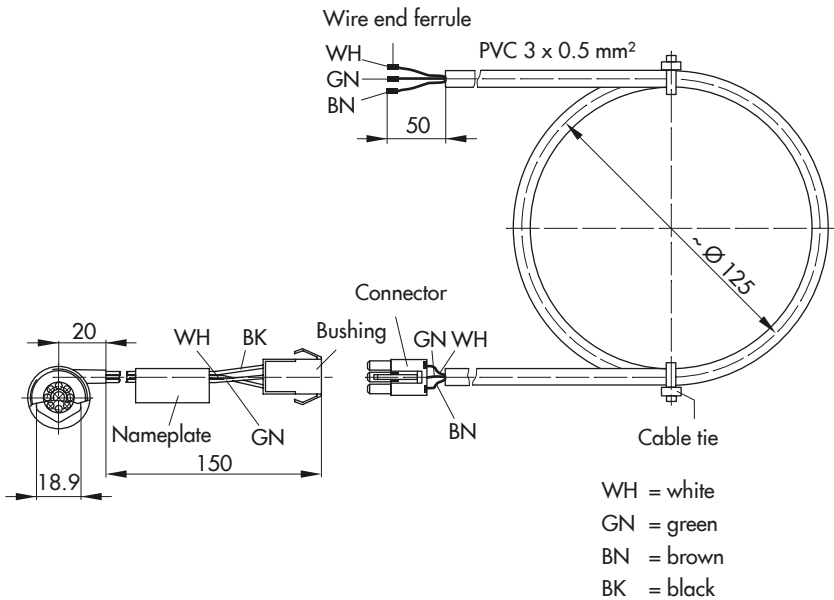

Fig. 5-5: Connection of a water flow sensor (see accessories in the Appendix)
- Connect as shown in Fig. 5-5.